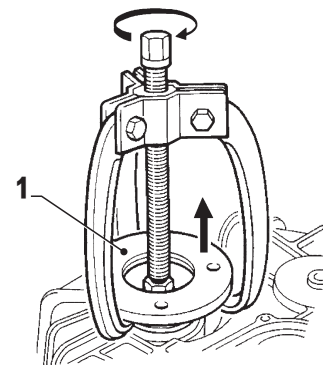

FIG. 4-2
Place extractor on the transmission and pull output the flange (item 1, Fig. 4-2) off.
Place extractor on the transmission and remove output flange (item 1, Fig. 4-2).